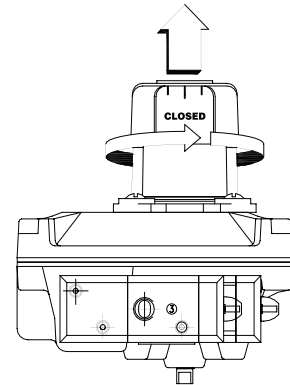

Figure 1
- 2.4 To release the cover, loosen the cover retaining screws. Twist the cover approx 45° and lift up. See Fig 1.